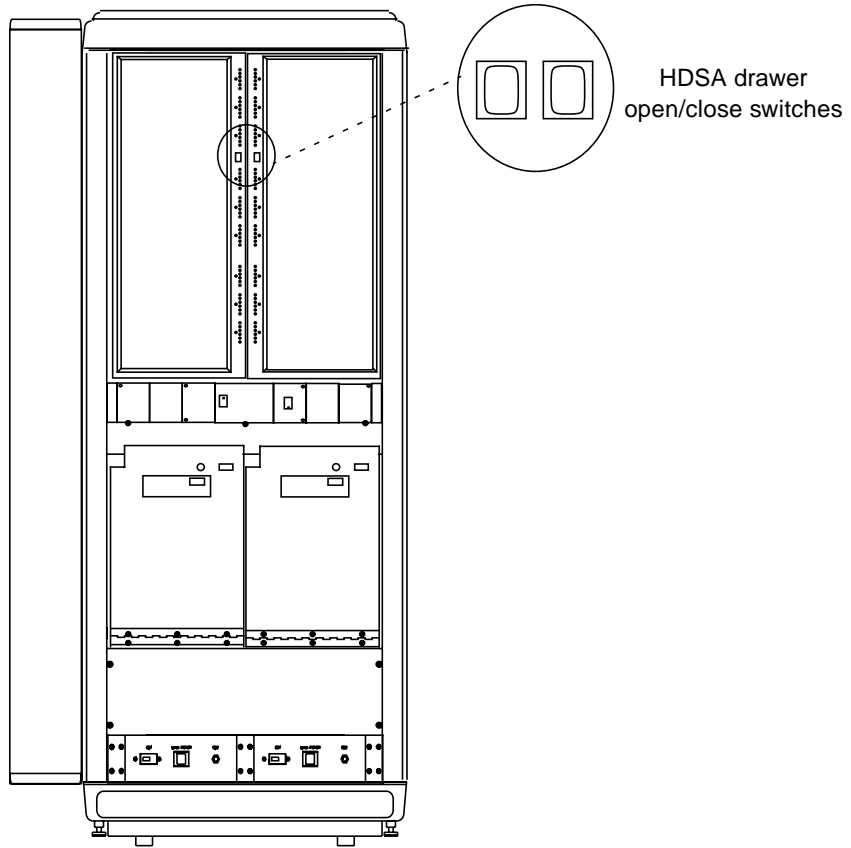

FIGURE 6-3 HDSA Drawer Open/Close Switch
- 1. Press the left HDSA drawer open/close switch shown in FIGURE 6-3. The drawer assembly slowly slides forward.**
1. **Press the HDSA drawer open/close switch shown in FIGURE 6-3. The drawer assembly slowly slides forward.**